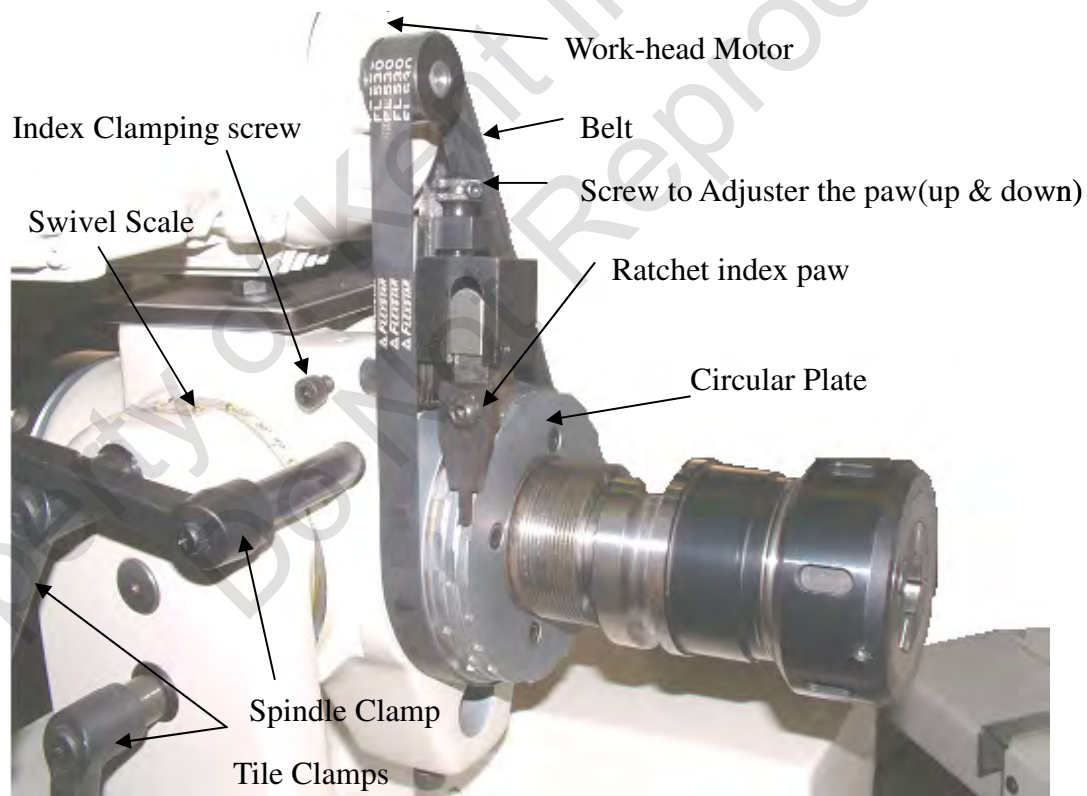

Fig 4-6 The work-head Ratchet Indexing Device
-A ratchet type indexing device located on the front of the work-head. See Fig 4-6.
The ratchet type indexing device (Fig 4-6) consists of three rows of notches machined in the periphery of the circular plate on the front of the work-head spindle, and a spring-loaded index blade which pivots in a block. This block itself is moveable on guide ways on a holder body whose shank, in turn, is adjustable in its mounting hole in the work-head housing. This indexing device is used for grinding straight cutter teeth and ordinary indexing. The three rows of notches offer a choice of 10, 12 or 14 equally spaced divisions. The 12 notch row include four additional notches for indexing of cutters with eight teeth.